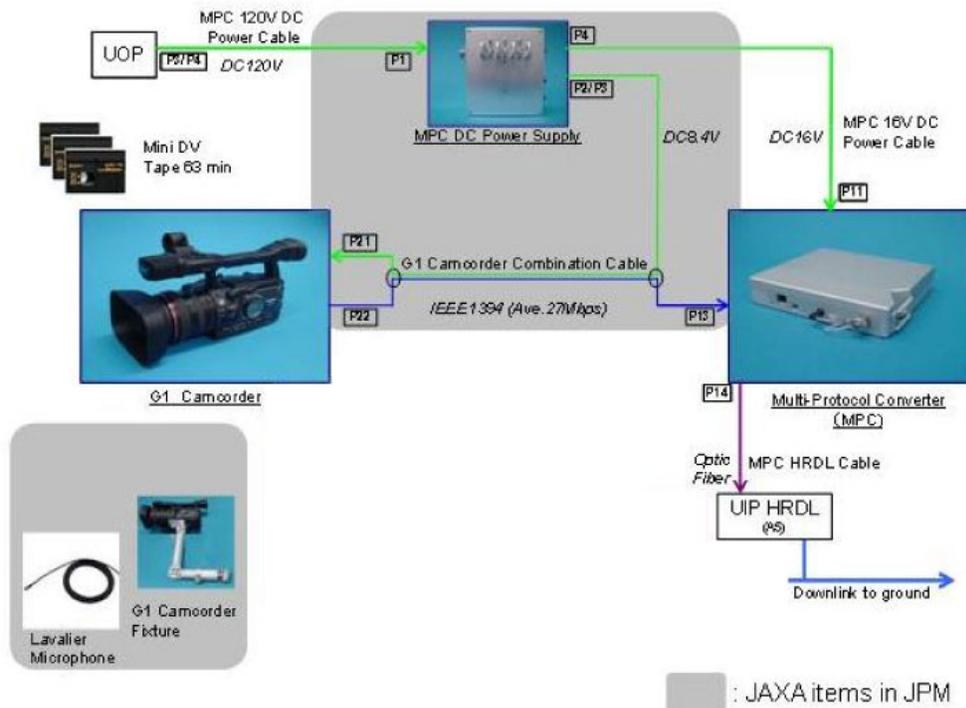

Figure 1. MPC, Multi-Protocol DC Power Supply, IPU and G1 Camcorder Configuration.
1. Equipment configuration is shown in Figure 1.